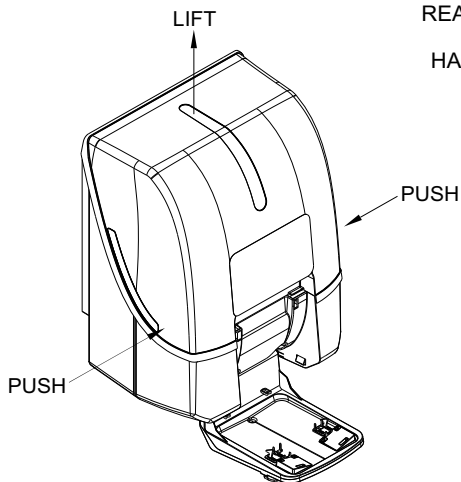

Figure 8
Step 8. Remove Lid Assembly (Ref Figure 8)
- A. To remove the Lid Assembly, a slight pressure must be applied to both sides of the Lid (Ref Figure 8). This will disengage the Locking Tab inside lid assembly. While pressing in, lift upward and cover will come off.